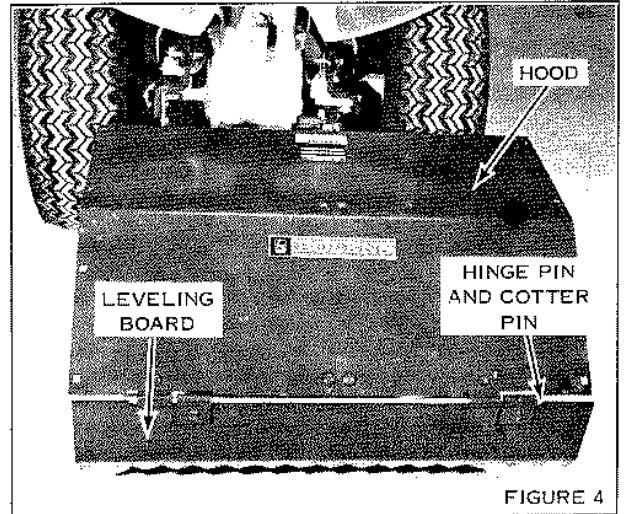

FIGURE 4
3. Next, attach leveling board to rear of hood with hinge pin and secure with 3/32 x 3/4" cotter pins. See Figure 4.